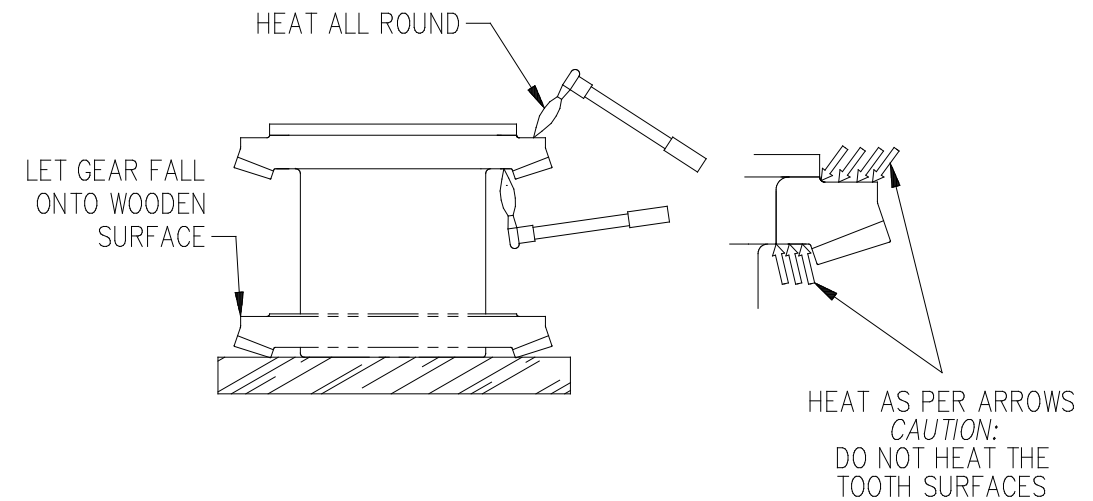

Fig. 6.9.2
5. While supporting the gear, heat the whole circumference of the gear uniformly with a propane burner or similar, and remove gear with caution. (Fig. 6.9.2).